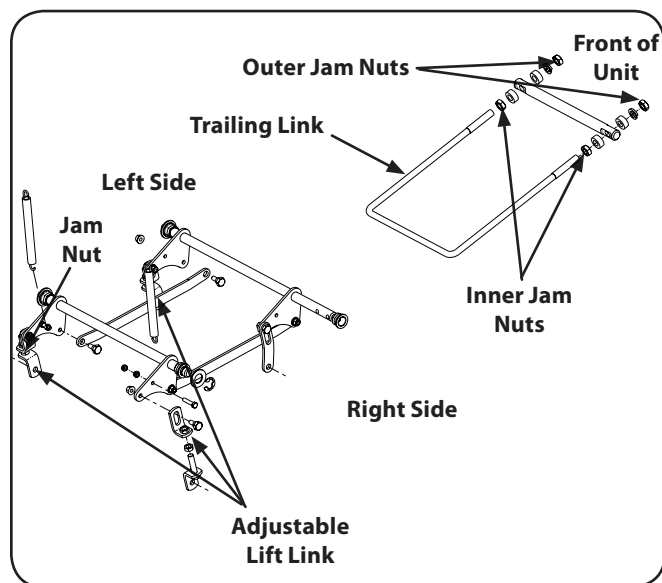

Figure 6-6
5. With a $\frac{3}{4}$ " wrench loosen the lower jam nut of the left side of the lift link. To adjust the side of the deck up or down turn the upper jam nut clockwise (to raise) or counter clockwise (to lower) a few turns. See Fig. 6-6.
8. The final adjustment would be to set the Trailing Link by adjusting the jam nuts on the threaded link. Loosen the jam nuts and tighten the inner nut to achieve the correct length and belt tension. See Fig. 6-6.